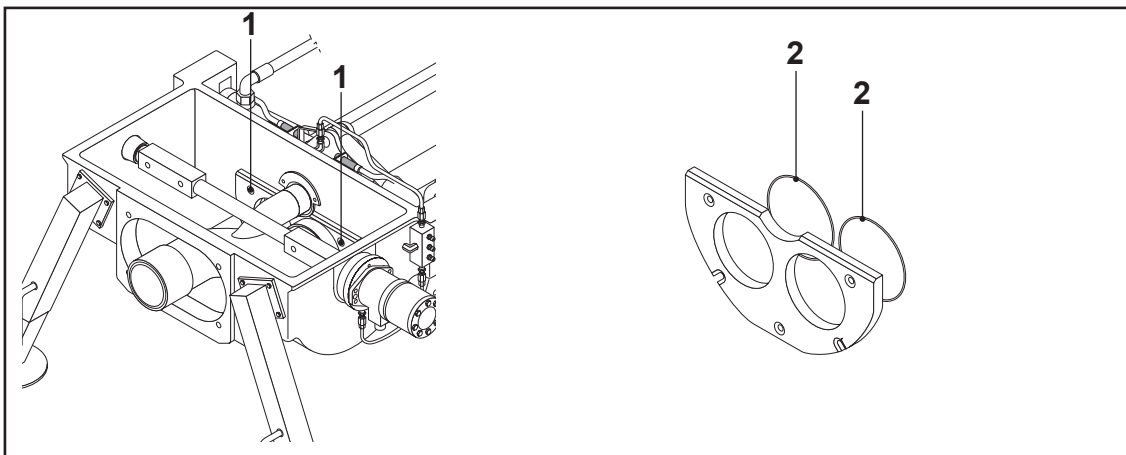

FIG. 76
- Remove the 5 fastening screws (FIG. 76-REF. 1) and take out the wear plate.
- Apply two new O-rings (FIG. 76-REF. 2) lubricating them with grease (the grease keeps the rings in place). Do not apply too much grease because it creates thickness.